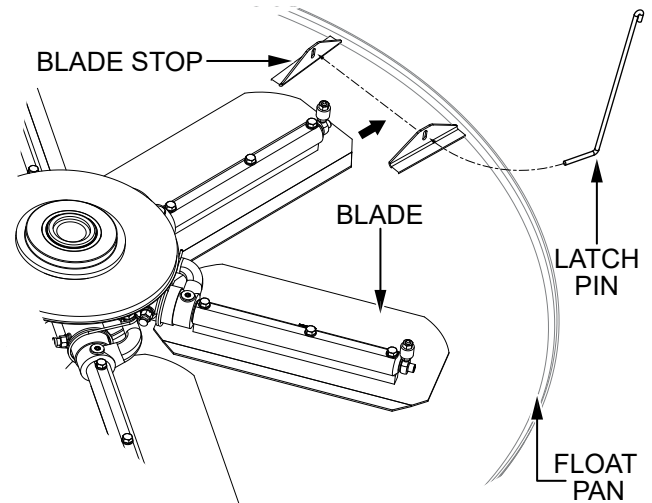

Figure 27. Float Pan Installation (Latch Pins)
2. Lift the trowel just enough to slide a **float pan** under the **blades**. Lower the finisher onto the pan with the blades between the **blade stops** (Figure 27).
3. Route a **latch pin** through the holes in the blade stops as shown in Figure 27.